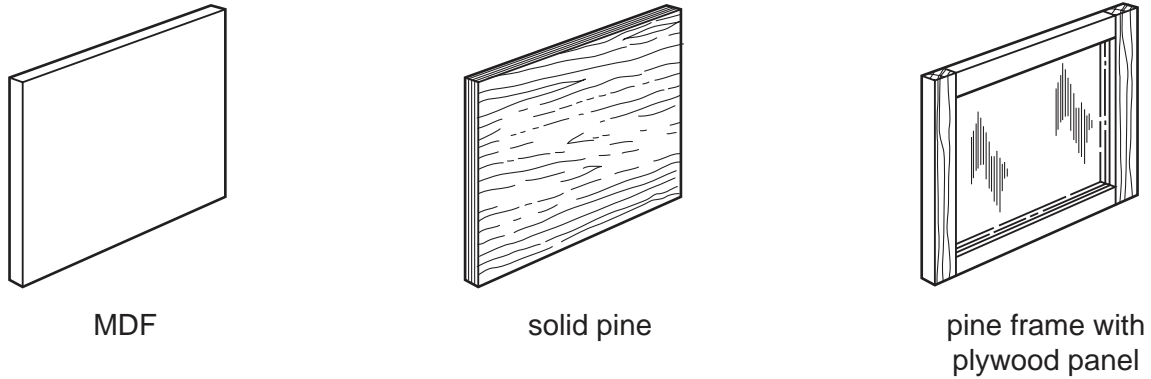

Fig. 7
- 9 Fig. 7 shows three types of door which are being considered for use on kitchen cabinets.